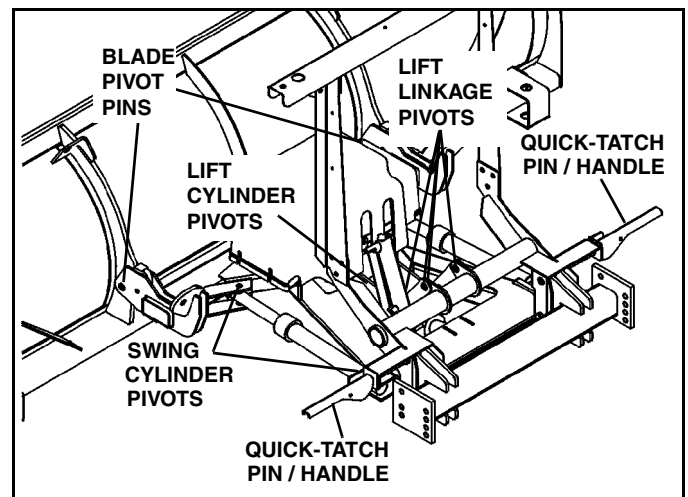

Figure 2-1
3. Apply a small amount of light oil to: Quick-tatch pin and handle assemblies, pivot pins between the blade and swing frame, and pivot pins at lift and swing cylinders. Also lubricate jackstand pins. (See Figure 2-1).
4. Apply a small amount of light oil to: Quick-tatch pin and handle assemblies, pivot pins between the blade and swing frame, and pivot pins at lift and swing cylinders. Also lubricate jackstand pins. (See Figure 2-1).